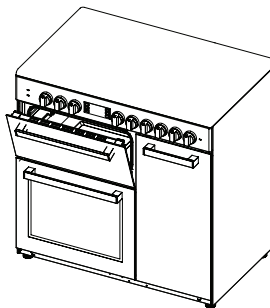

Figure 25
3. Place the safety panel under control panel by opening the oven front cover glass. (figure 25)